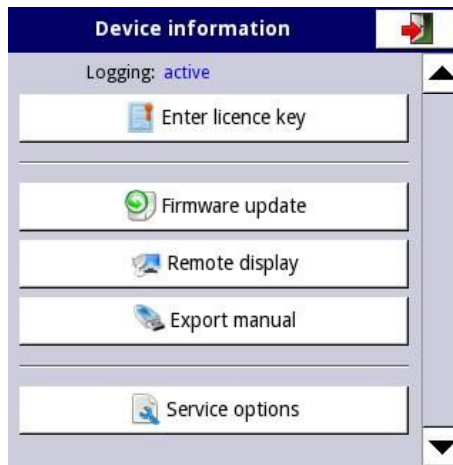

Fig. 7.27. Device information menu
Enter licence key button (see **Fig. 7.27**) allows the user to enter a licence key purchased from the manufacturer (or supplier), enabling additional software options which enhance the functionality of the device. After entering and accepting the licence key the device automatically starts up with new software options (e.g. if the licence key for data logging is entered the text under the **Licences** heading appears as: **Logging**: the period of validity – see **Fig. 7.27**).
Firmware update button (see **Fig. 7.27**) allows the user to update the device software. To perform the update:
- plug in the flash drive (some high capacity Pendrives are not supported, best choice is pendrive with 2GB capacity) - start the update process by pressing the **Firmware update** button (see **Fig. 7.27**).
The **Service options** button (see **Fig. 7.27**) allows the user to: